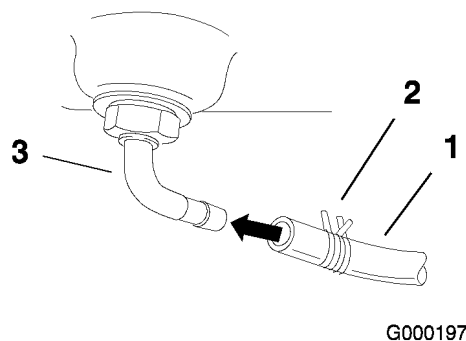

Figure 7
4. Slide the hose clamp onto the fuel line (Figure 7).
5. Push the fuel line onto the fuel tank connection and secure it with a hose clamp (Figure 7).